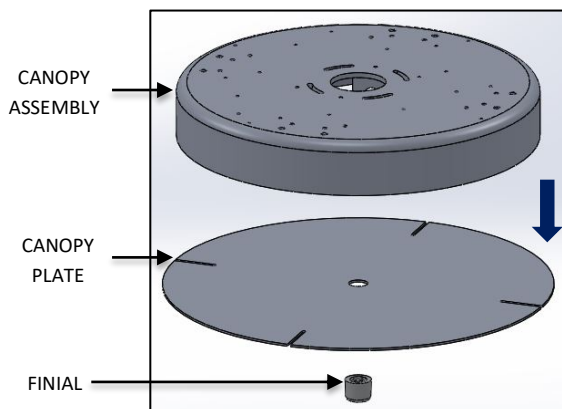

FIG. 5 - CANOPY DIS-ASSEMBLY
1. Dis-assemble the FINIAL and the CANOPY PLATE from the CANOPY ASSEMBLY as shown in FIG. 5 below.